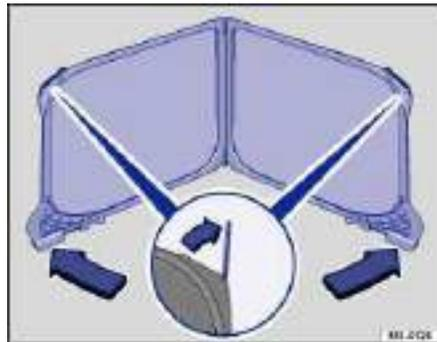

Fig. 34 Unfolding the wind blocker.
- Fold out both sides in the direction of the arrows ⇒ fig. 34.
- Fold both sides inward opposite the direction of the arrows ⇒ fig. 34.